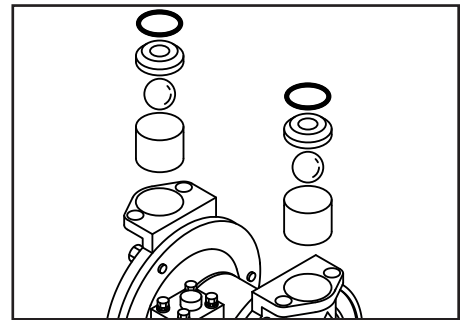

Figure 14
- Remove the ball, valve seat and O-ring (See Figure 14).